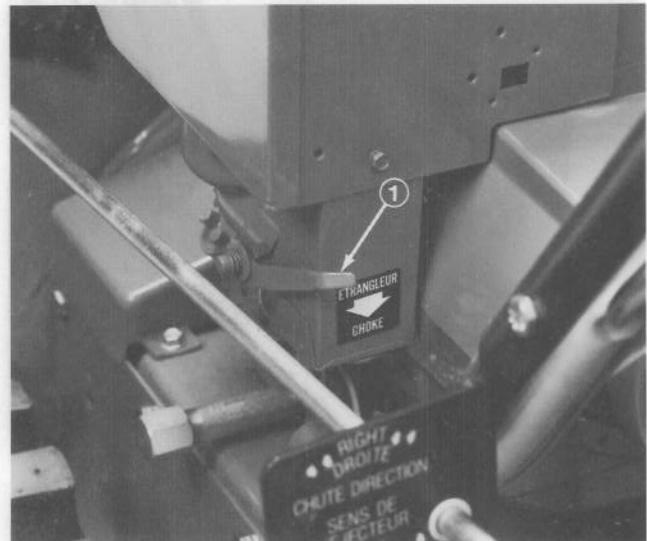

Figure 25
Choke (Fig. 25) — The choke is on left side of engine. Push choke down until it stops to get full choke position for starting a cold engine. As engine warms up, move choke fully up.
4. Move choke down until it stops (Fig. 25).